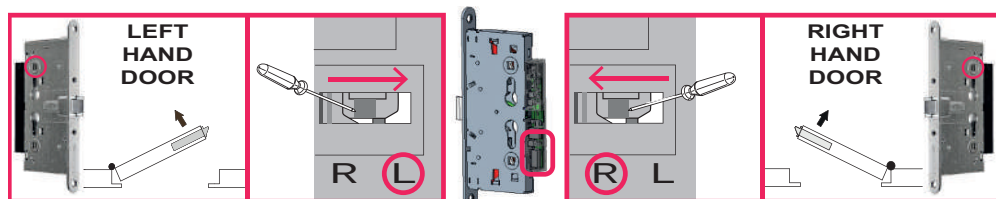

Figure 1: lever for changing “hand”
- Select the hand using the dedicated lever (as shown in figure 1).